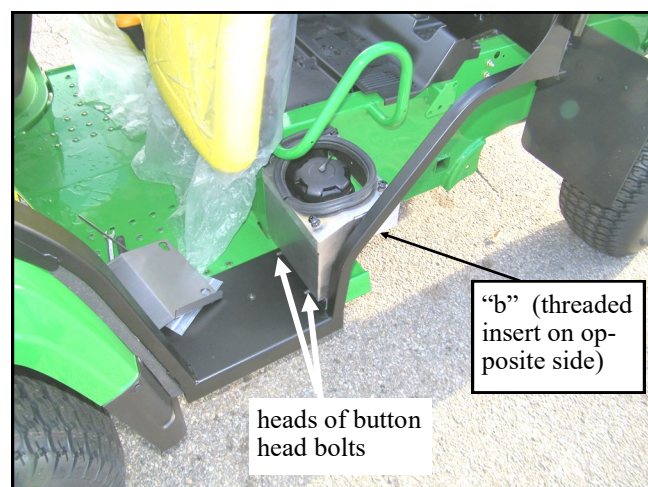

Fig. 7.2
7.2 With assistance, install the left side frame so that the vertical bent lip on the floorboard is in front of the fuel cap assembly. Use care to avoid damaging or distorting the expand-a-foam that seals against the front fender. See figure 7.2.
7.3 The floorboard gets three carriage bolts 5/16 x 1" long, three steel washers, and three locknuts. Washers and locknuts go underneath the vehicle. See fig. 7.2
7.4 Connect the fuel cap assembly to the floorboard using two button head bolts 5/16 x 3/4" long, four steel washers, and two locknuts. Bolt heads to be towards the front of the vehicle as shown in fig. 7.2.
7.5 Connect the fuel cap assembly to the side frame tube with one button head bolt 5/16 x 3/4" long and one steel washer. There is a factory installed threaded insert on the inside surface of the side frame tube in vicinity "b" in fig. 7.2.